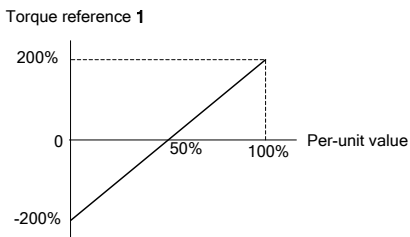

Fig.6-25 Torque reference 2
**2:** Torque reference 2: Determine the torque reference with the per-unit value converted from analog. The 0 to 100% per-unit value A is subject to internal correction of  $(A - 50\%) \times 2$ , and then corresponds to -200% to 200% of the torque input in positive and negative directions, as shown in Fig.6-25.